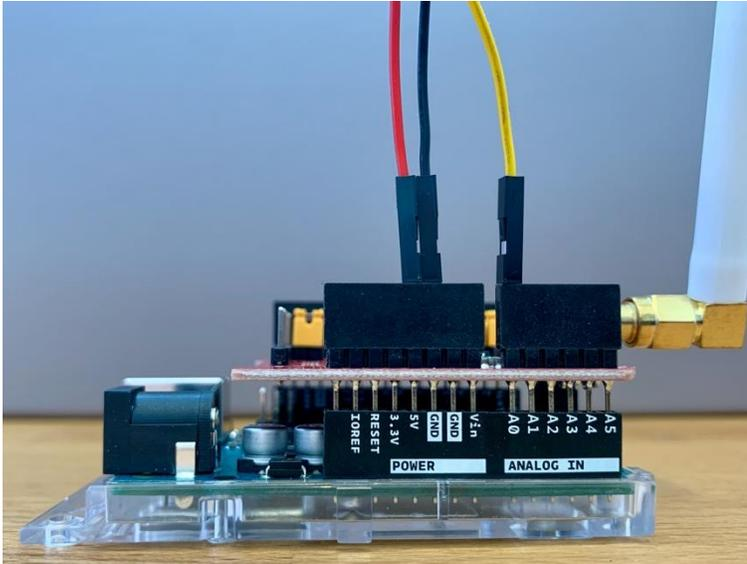

Figure 12: Yellow wire, connected to the A0 terminal
- c. SIG (yellow wire) to an Analog terminal, A0 (Figure 12)